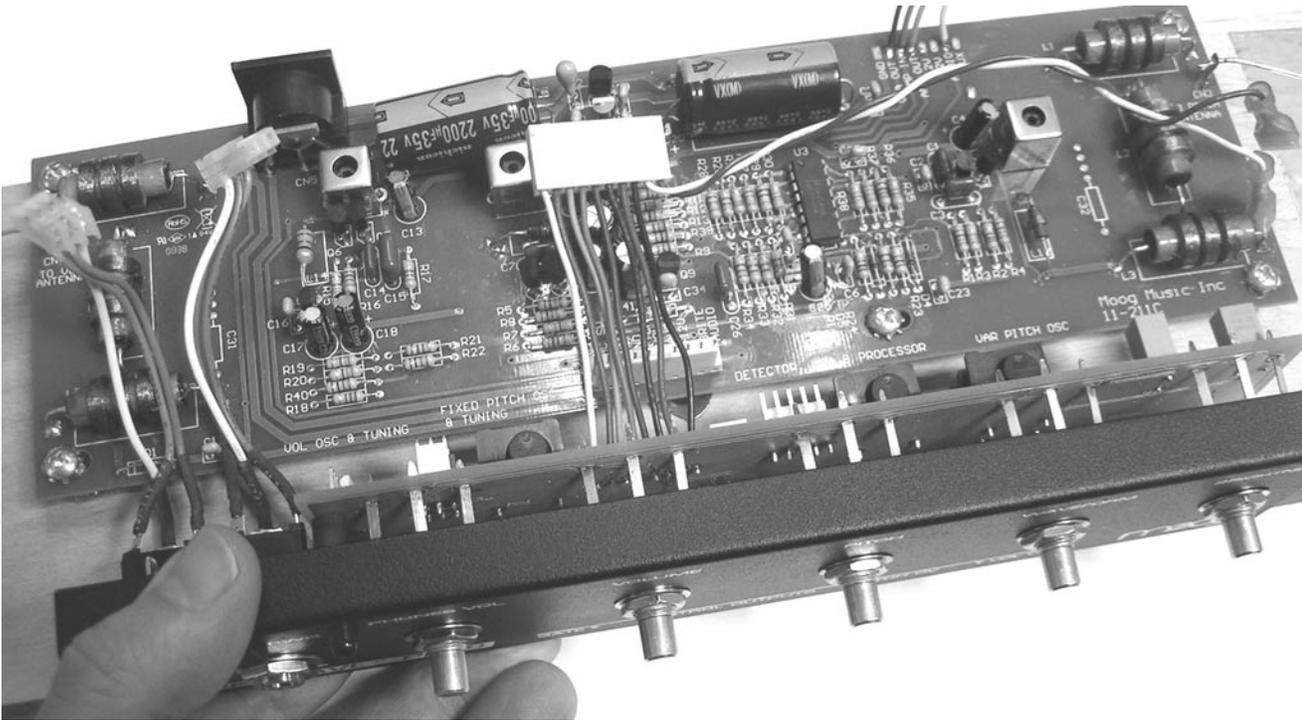

figure 7
- 10) Slowly place the panel onto the front of the cabinet so the potentiometer leads stick through the appropriate pads on the 11-213 PCB (shown in figure 7).